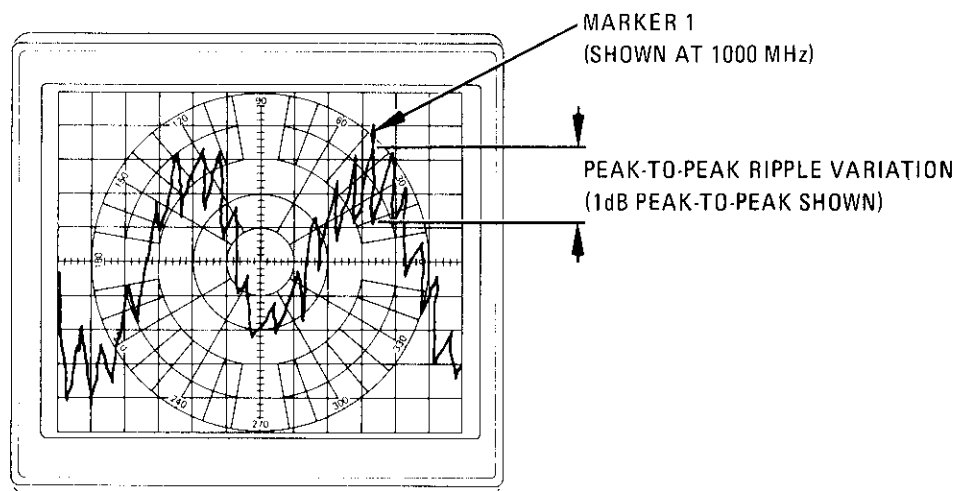
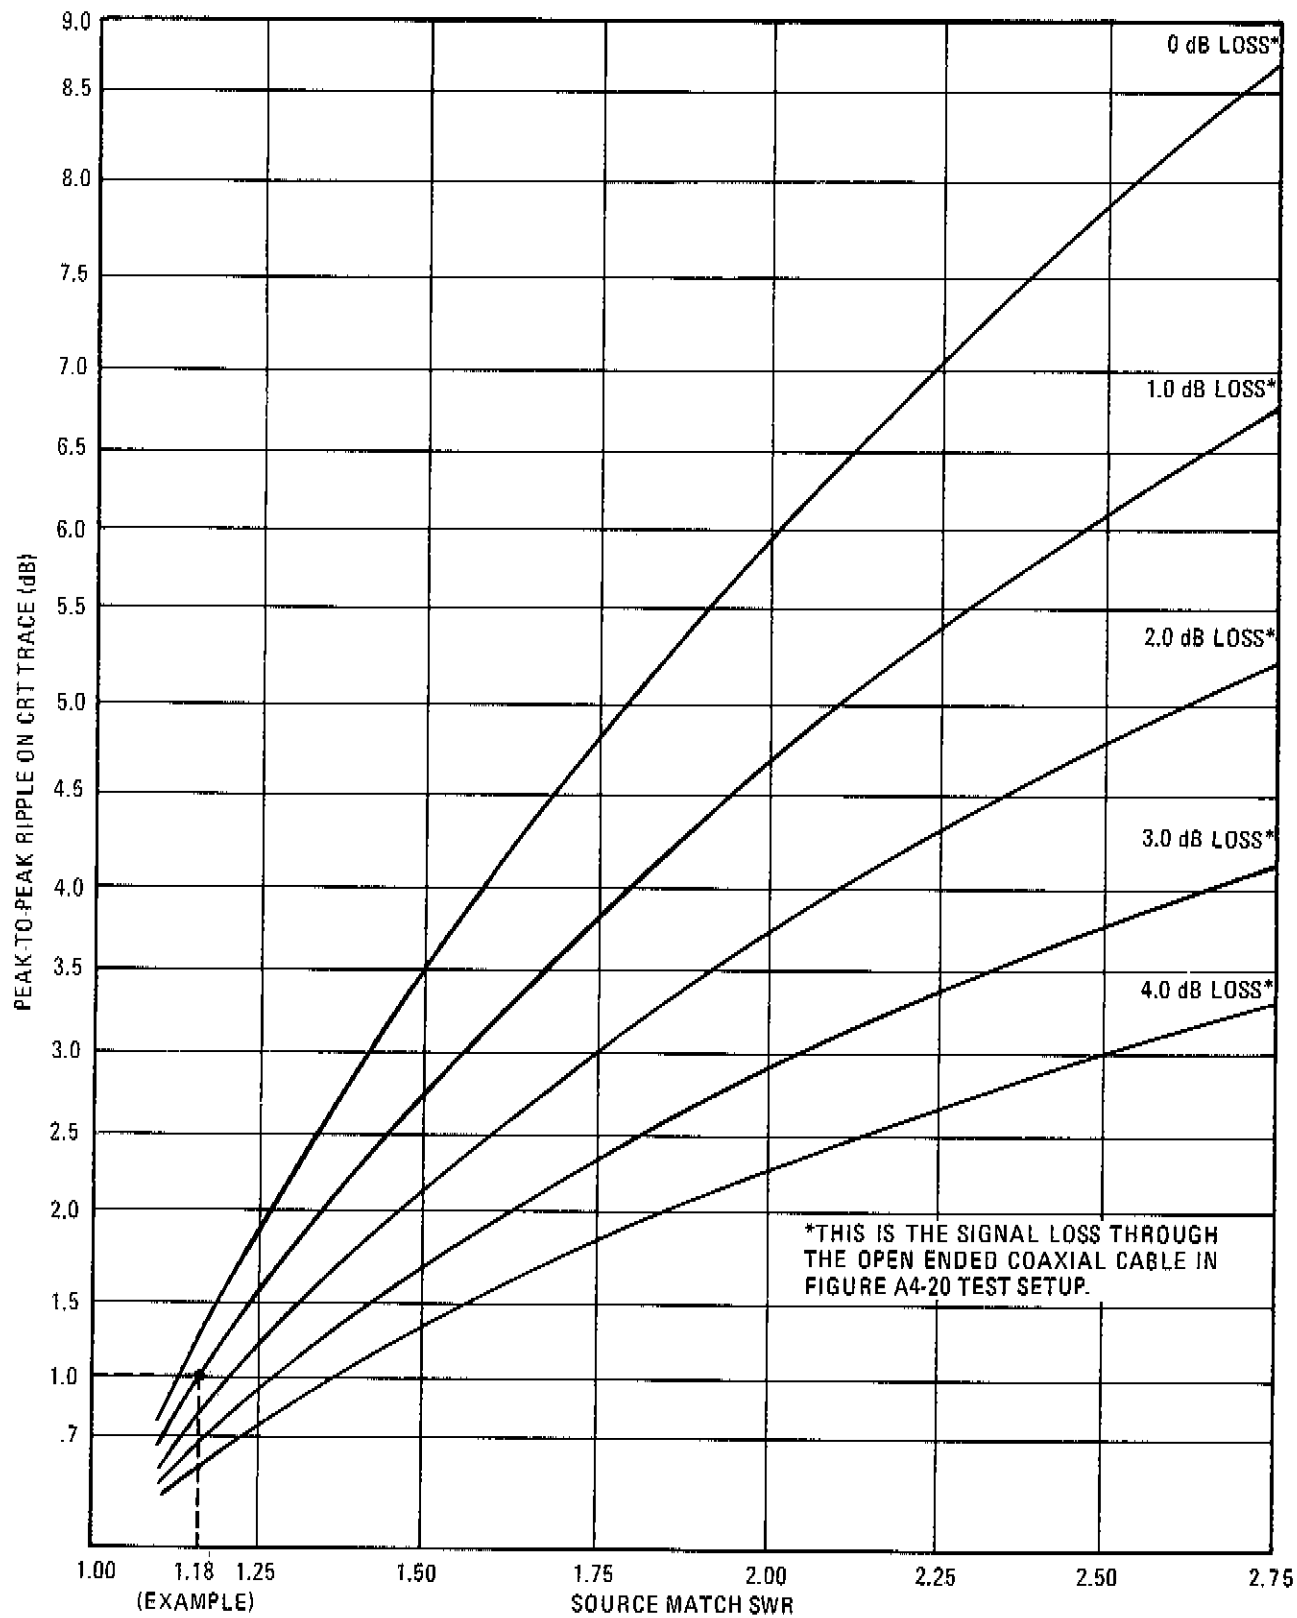

Figure A4-21. Typical Trace of Source Impedance Ripple
Figure A4-22. Graph to Convert Ripple on Trace to Source Match SWR
- d. Select point on trace near the top or bottom of trace where adjacent ripple cycles may be measured. Adjust Marker 1 to place the Marker 1 diamond on the area where the ripples are measured as shown in Figure A4-21. Read the MARKER 1 frequency from FREQ COUNTER digital display. (EXAMPLE: 1000 MHz.) Note maximum ripple in this area. (EXAMPLE: 1 dB peak-to-peak.)
- (1) On Table A4-1, look under 1 GHz (1000 MHz) for Coaxial Cable type RG 214/U used in test setup. 100 ft. length has a loss of 9.0 dB. Therefore a 12 ft. length has a loss of approximately 1.0 dB.
- (2) On Figure A4-22, select the 1.0 dB loss curve.
- (3) The ripple shown in Figure A4-21 is 1 dB peak-to-peak. Therefore, Figure A4-22 shows SWR = 1.18 or Return Loss of 21.6 dB.